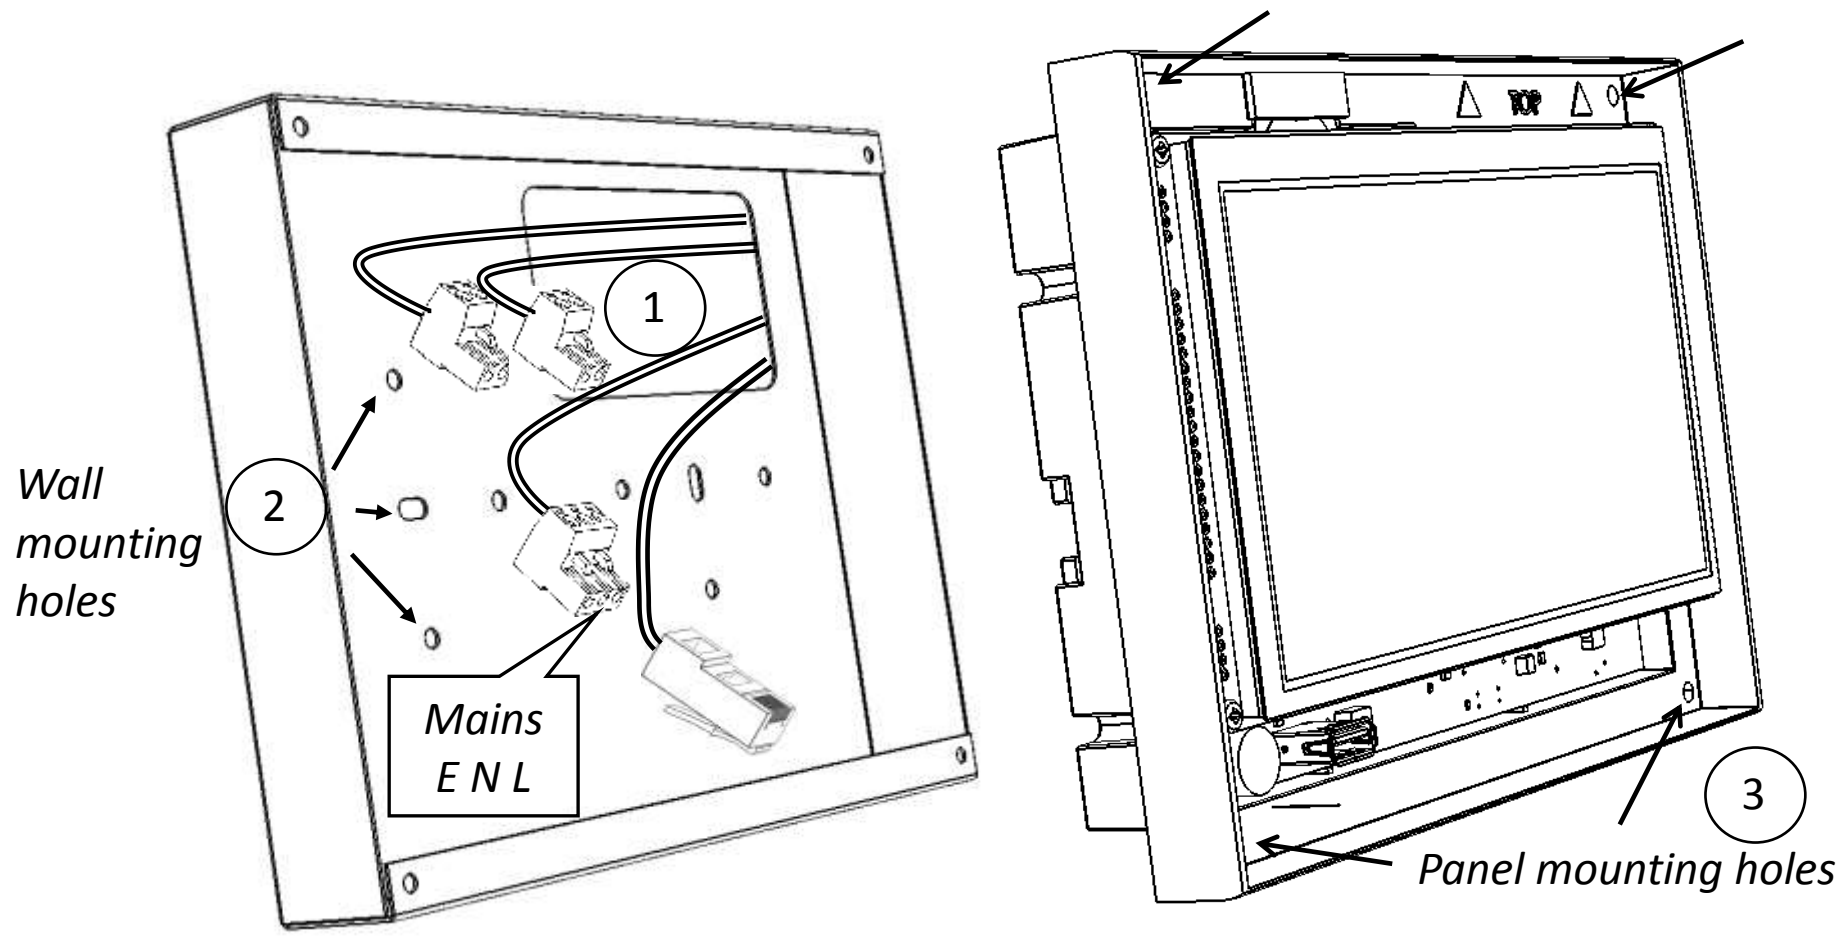

Figure 5 Panel Installation
To install panel perform the following steps as shown in Figure 5
- Fix the panel with mounting box while avoiding any trapped wires and secure it to mounting box using the provided self-taping screws through panel mounting holes as shown in Figure 5